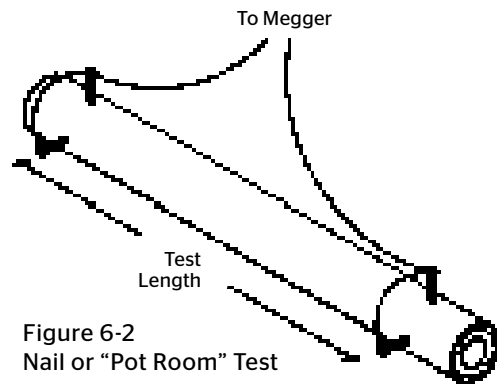

Figure 6-2
3. Pierce sample ends with clean nails, as shown in Fig. 6-2
4. Connect nails to 1000V DC power source and megohm meter or 1000V "megger" as shown in Fig. 6-2
6. Measure "test length" as shown in Fig. 6-2